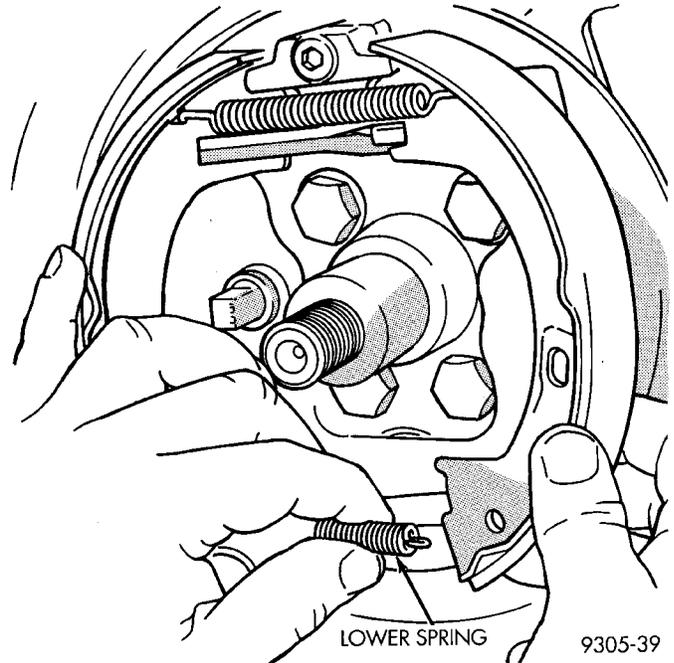
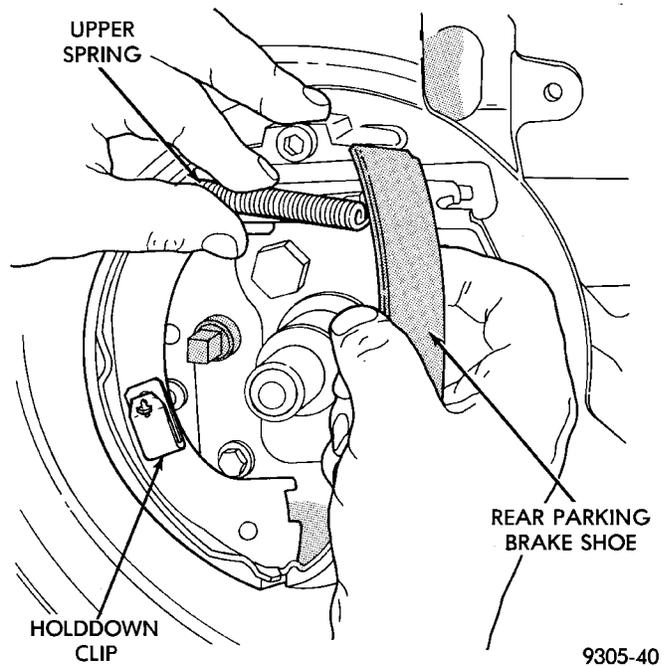

Fig. 160 Brake Shoe Lower Return Spring
Fig. 161 Brake Shoe and Upper Spring
(9) Remove lower shoe to shoe spring (Fig. 160).
(10) Pull rear brake shoe assembly away from anchor. Then remove rear brake shoe and upper spring (Fig. 161).
- (2) Install rear brake shoe and the upper brake shoe to shoe return spring (Fig. 161).
- (3) Pull rear brake shoe over anchor block until properly located on adapter.
- (4) Install the lower shoe to shoe return spring (Fig. 160).